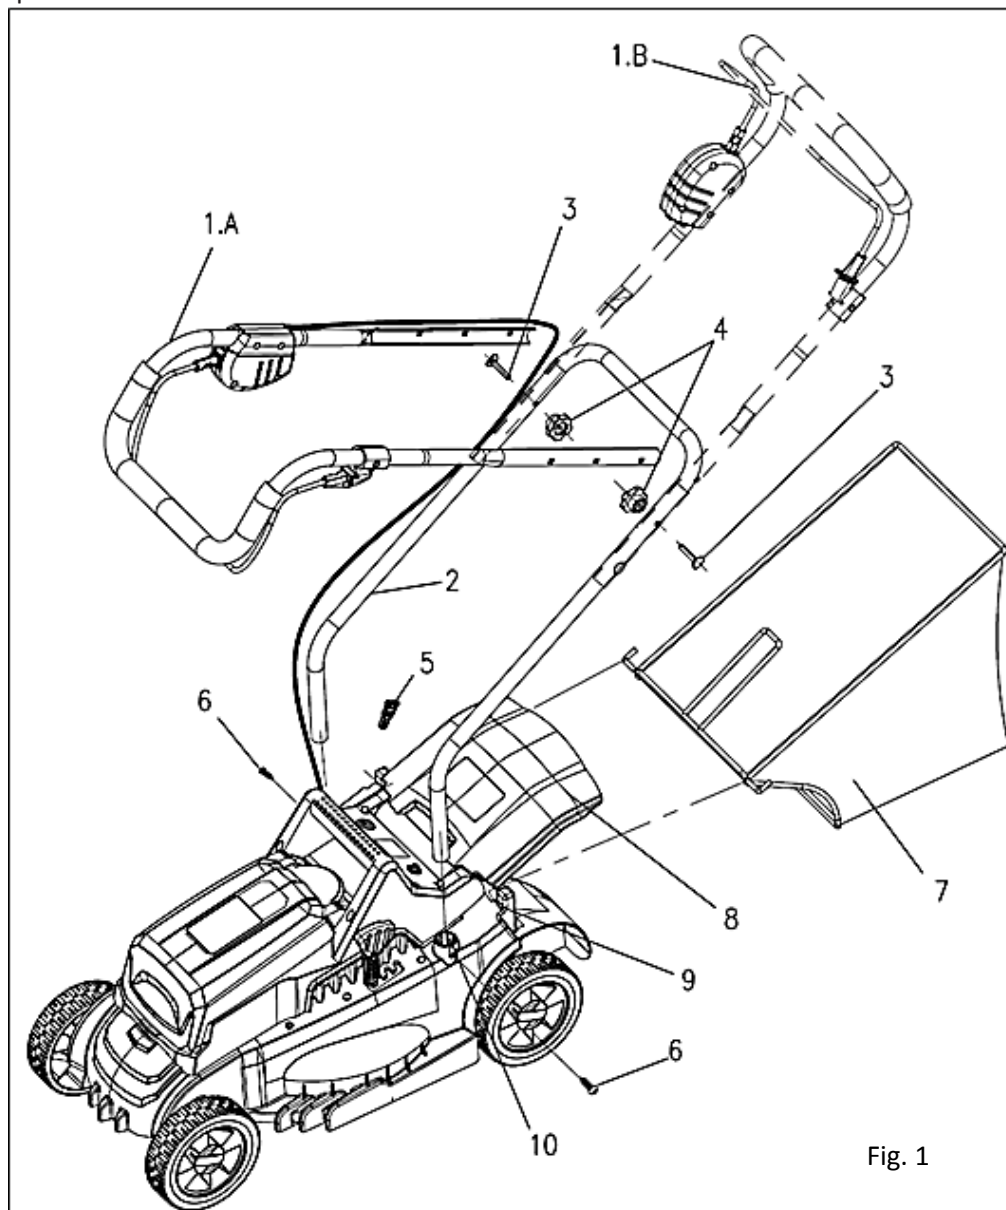

Fig. 1
- Insert the lower handle (**Fig.1 No.2**) into the position hole (**Fig.1 No.10**) towards the main part. Make sure that the lower handle is in place .
- Insert screw B(**Fig.1 No.6**) into the screw hole, then tighten the screw firmly. Make sure that connection is tight.
- Turn the upper handle(**Fig.1 No.1**) from position A to position B, make sure that the square hole in the upper handle is aligned with the round hole in the lower handle. There are 3 square holes in the upper handle , depending on the required height choose a suitable one to install.
- Insert screw A(**Fig.1 No.3**) into the screw hole, then tighten the locking knob (**Fig.1 No.4**) . Make sure that the connection is tight.
- Raise the rear cover into position, then put the grass catcher bag (**Fig.1 No.7**) on the mower body. Ensure that the hook in the grass catcher bag sits on the position pole (**Fig.1 No.9**).
- Insert the key (**Fig.1 No.5**) into the slot.